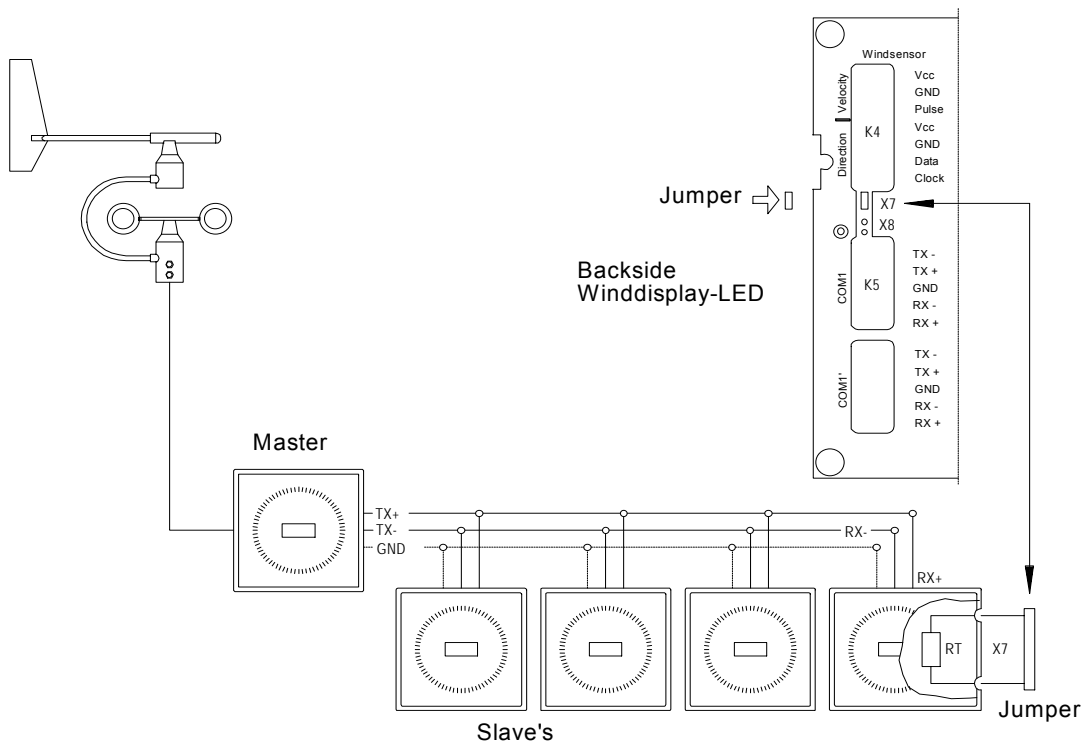

Figure 4: Example for connection
- When a jumper (X7) is inserted at the receiver (Slave) the integrated termination resistor (RT=200Ω) must be activated (ref. figure 4).